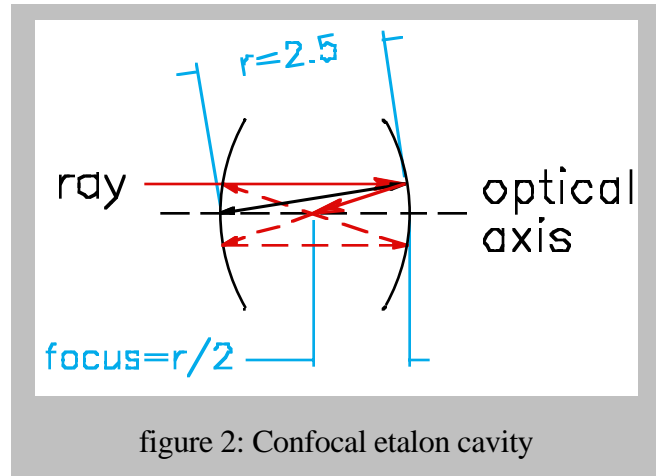

figure 2: Confocal etalon cavity
The factor of four in the round trip length (RT) in the calculation of FSR comes from the fact that the light in the confocal etalon cavity travels in a kind of "angular figure eight" rather than straight back and forth between the mirrors (figure 2). The distance between the mirrors is twice the focal length which is the same as the radius of curvature. Thus  $RT = 4 \cdot L = 4 \cdot (2.5 \text{ cm}) = 10 \text{ cm}$ .